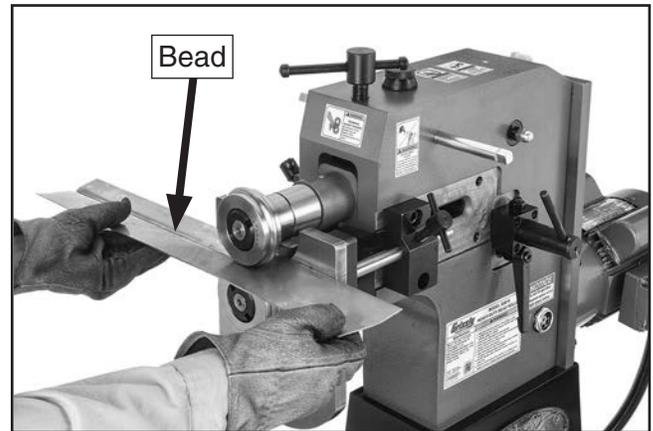

Figure 23. Bead-rolling pass complete.
6. Using both hands to steady workpiece, press foot pedal to advance workpiece through mandrels and create bead (see **Figures 23–24**). When you reach end of bead, release foot pedal to stop motor.